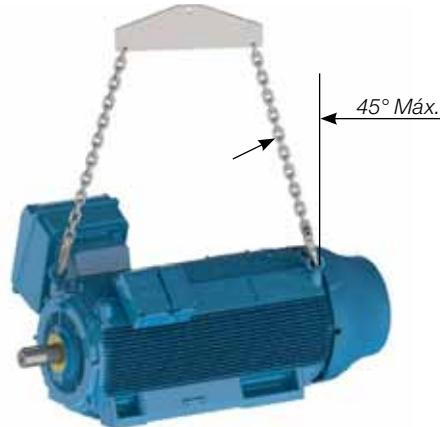

Figure 4-5 – Maximum resulting angle for horizontal HGF motors
- For HGF motors, as shown in Figure 4-5, the maximum resulting angle should not exceed 30° in relation to the vertical axis.